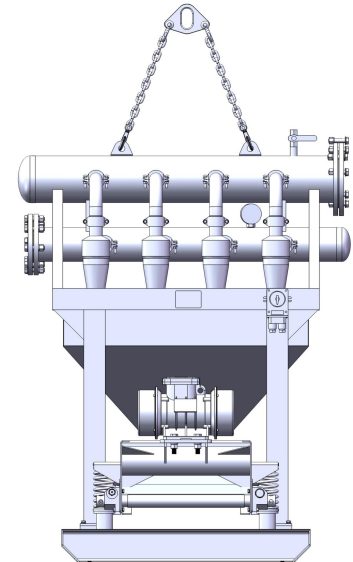

Figure 3
It must be lifted at pointed place, and propping the lifting rope with spreader bar, so as to avoid destroying the equipment. Refer to figure 3.
B. Lifting on the specified point is required when the complete is loaded or unloaded, and attention should be paid to avoid collision during transport, refer Figure 3;